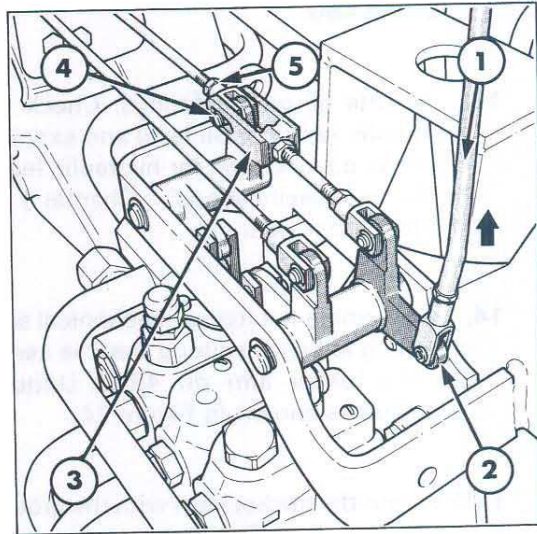

Figure 17
7. Disconnect the horizontal linkage and hydro-mechanical self-levelling sliding clevis from the valve spool operating bellcranks, Figure 17.